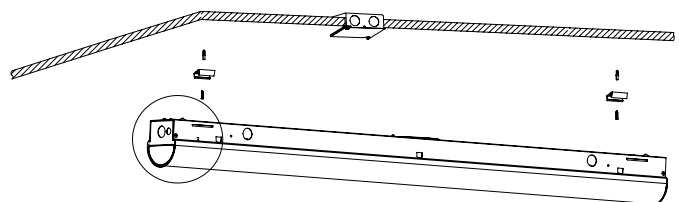

Fig. 4
SUSPENDED CHAIN MOUNTING (FIG. 4):
2. Attach the customer supplied V-hooks to the brackets (Fig. 4).